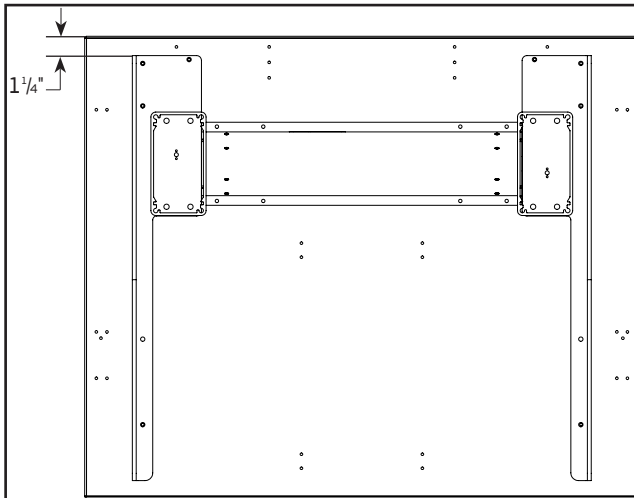

Figure 3: ErgoStat, 30-42" D Work Surface
- 4a. The back edge of the ErgoStat base (Figure 3) should be 1¼" from the back edge of the work surface. Properly align the ErgoStat base support brackets, left and right, over the predrilled holes of the work surface.